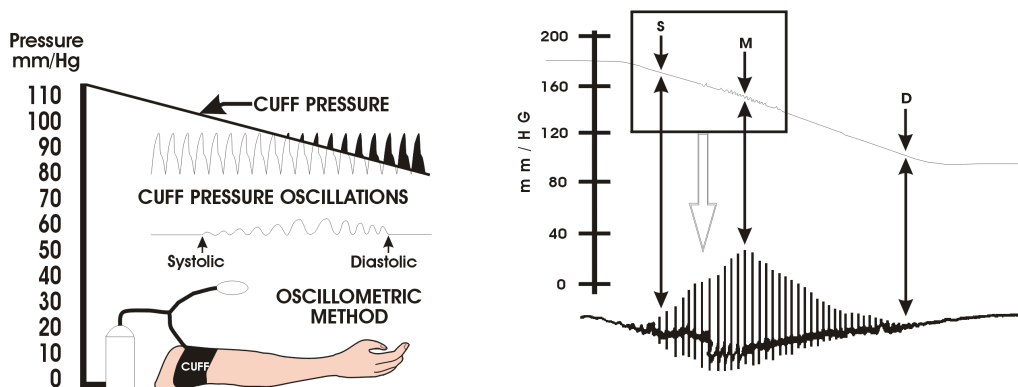

Figure 4-5. Oscillometric Measurement Method
- a. As the occlusive cuff is inflated to a suprasystolic pressure the artery is occluded so that no blood passes through. At this point, even though no blood flows under the cuff, there are small pulsations induced into the cuff pressure by the partially-occluded proximal portion of the artery lying under the cuff (**See Figure 4-5**).